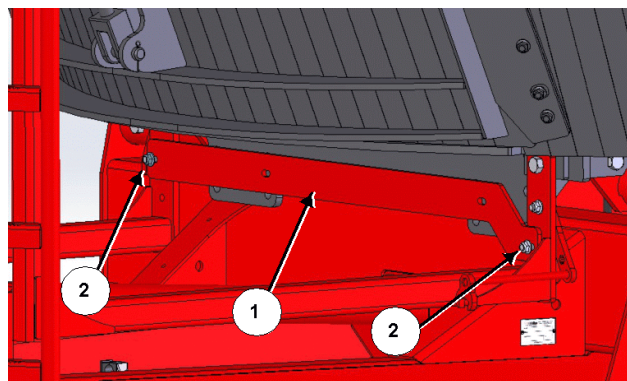

Figure 2: Install the rear conveyor support bracket
3. Install the rear conveyor support bracket (1) onto the platform uprights and below the tub door, as per **Figure 2**.
- a. Fasten the bracket with 2 of ½" x 1-½" hex bolts, flat washers and ½" flange lock nuts (2).